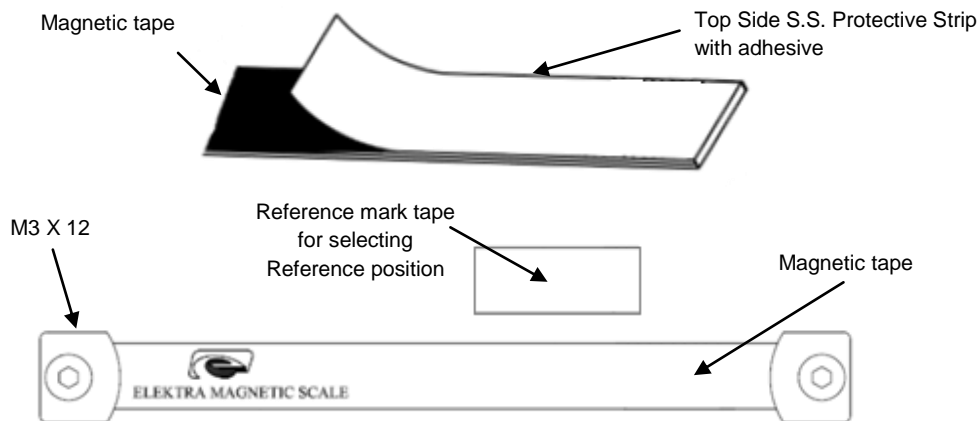

Figure 5
- ☞ Protective S.S. strip is provided along with magnetic tape. Fix protective S.S. strip on magnetic tape as shown in Figure 5. Peel off adhesion cover at the backside of S.S. strip.
- ☞ Fix both ends of the tape using supplied end caps and M3X12 screws as shown in Figure 5.